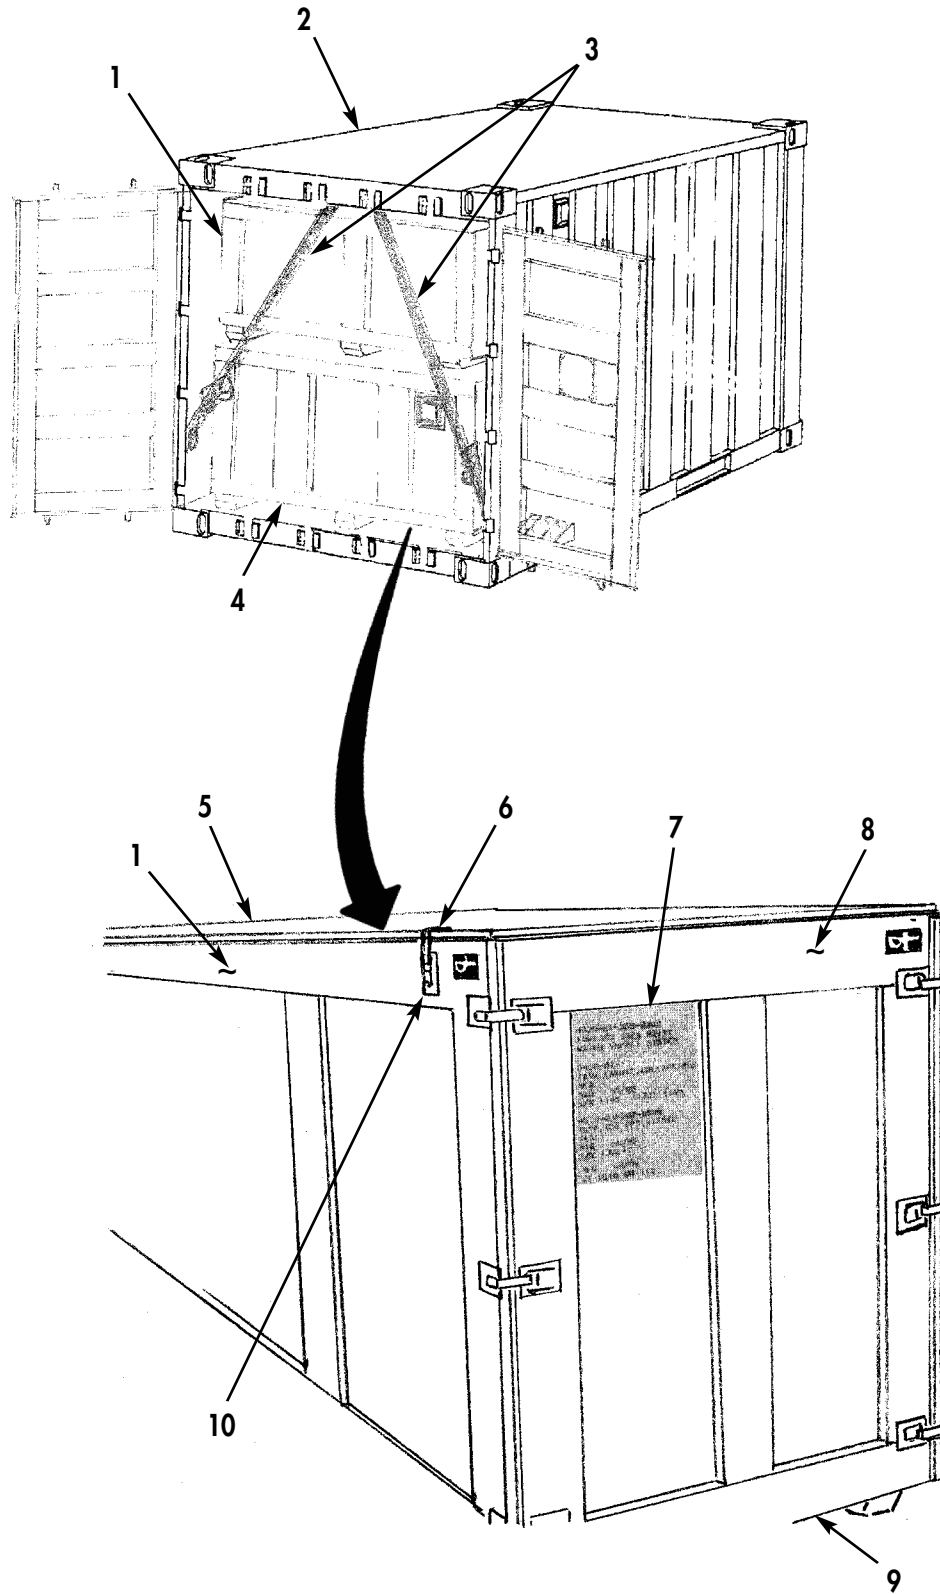

Figure 1. FAWPPS Model M105 Shipping Crate Shown.
1. Remove two cargo straps (Figure 1, Item 3) from drum crate (Figure 1, Item 4) and component crate (Figure 1, Item 1), and carefully remove component crate (Figure 1, Item 1) and drum crate (Figure 1, Item 4) from TRICON container (Figure 1, Item 2).
2. Check stenciling (Figure 1, Item 7) and packing slip for correct NSN to verify crate contents.
6. For each crate, mark location of top panel (Figure 1, Item 5), two side panels (Figure 1, Item 1), and end panels (Figure 1, Item 8) with base (Figure 1, Item 9) for future installation.
7. Carefully remove all clamps (Figure 1, Item 6) from top panels (Figure 1, Item 5) of crates by prying each clamp (Figure 1, Item 6) from crate brackets (Figure 1, Item 10). Remove top panel (Figure 1, Item 5).
9. Remove two side panels (Figure 1, Item 1) and end panels (Figure 1, Item 8) from base (Figure 1, Item 9) by prying and removing all remaining clamps (Figure 1, Item 6) from crate brackets (Figure 1, Item 10).